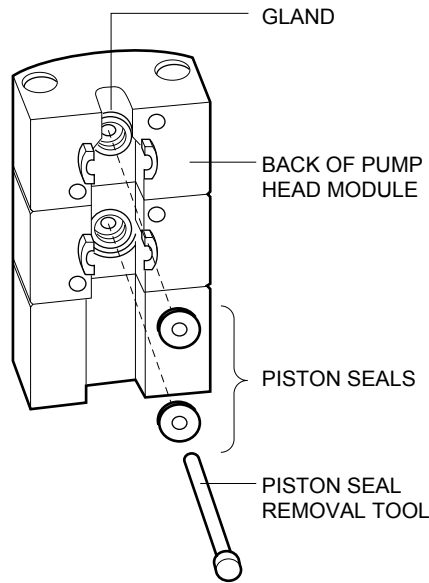

Figure 2. Removing the Piston Seals (view showing the back of the Pump Head Module)
- e. Using the Piston Seal Removal Tool, pry the seal from the gland. To do this, you insert the tip of the Seal Removal Tool into the seal and gently pry the seal away. (See Figure 2.)